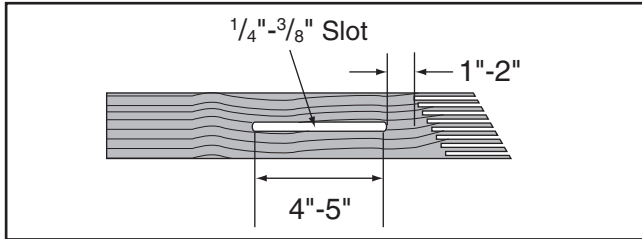

Figure 80. Slot routed in featherboard.
- Rout a $\frac{1}{4}$ "- $\frac{3}{8}$ " wide slot 4"-5" long in the workpiece and 1"-2" from the short end of the featherboard (see **Figure 80**).